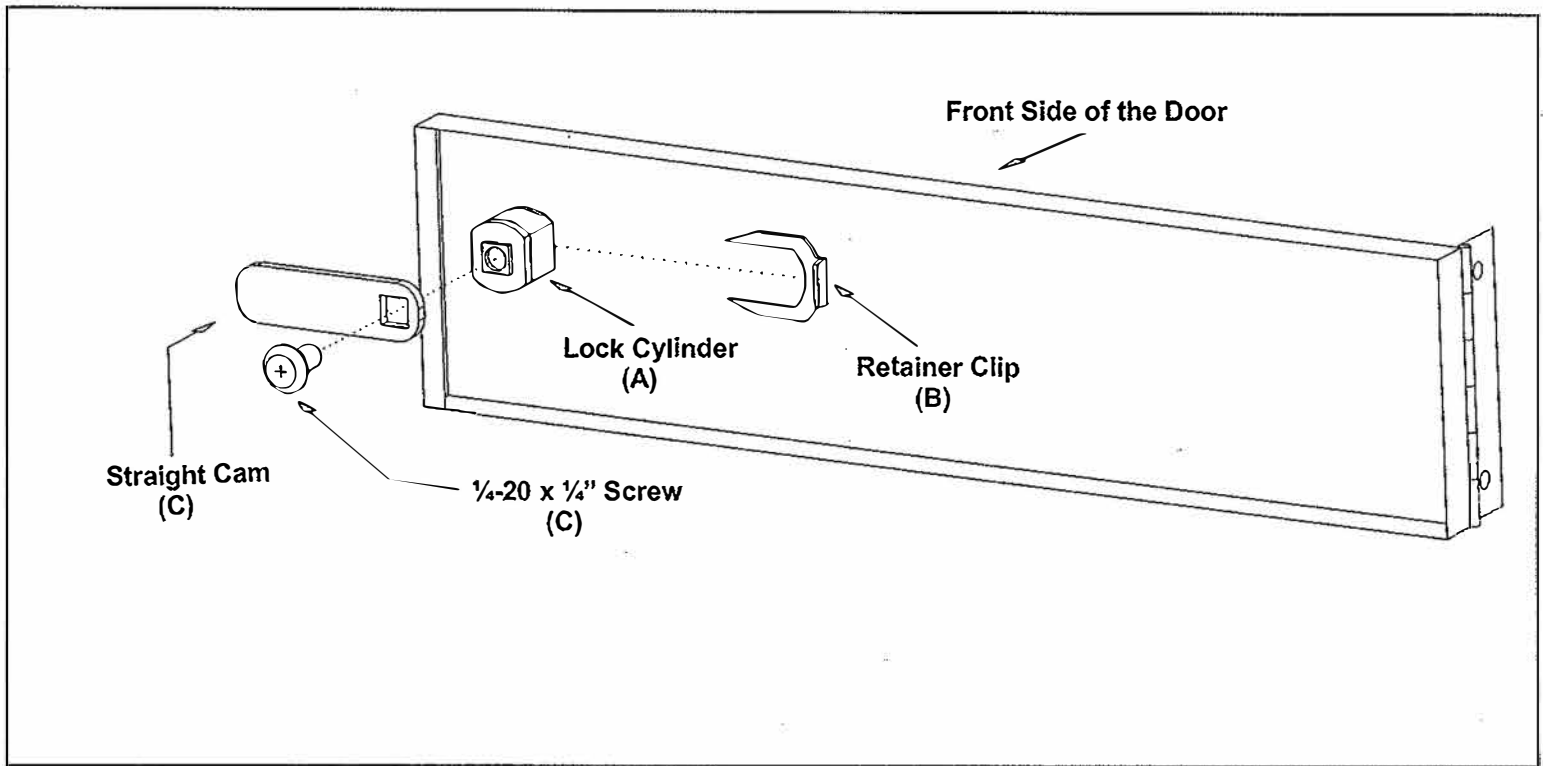

Figure 1
- A) Slide the Lock Cylinder through the Front Side of the Door (See Fig. 1).